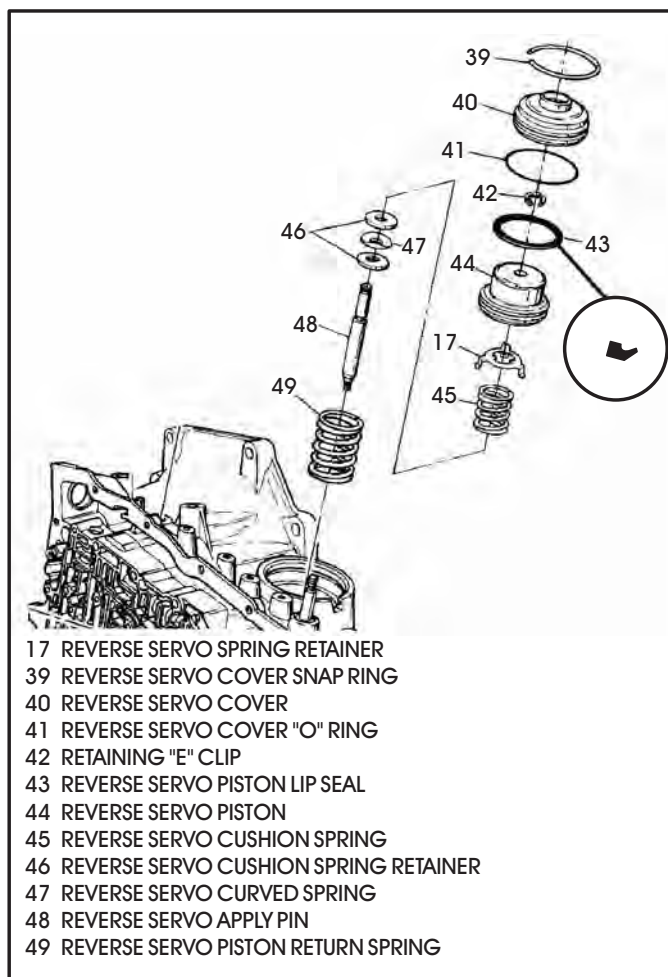

Figure 222
8. Assemble the reverse servo parts exactly as shown in Figure 222.
9. Install new lip seal into groove in the reverse servo piston, in direction shown in Figure 222, and lube with small amount of Trans-Jel®.
10. Install reverse servo piston assembly into the transaxle case (See Figure 222).
11. Install new "O" ring on reverse servo cover, as shown in Figure 222, and lube with a small amount of Trans-Jel®.